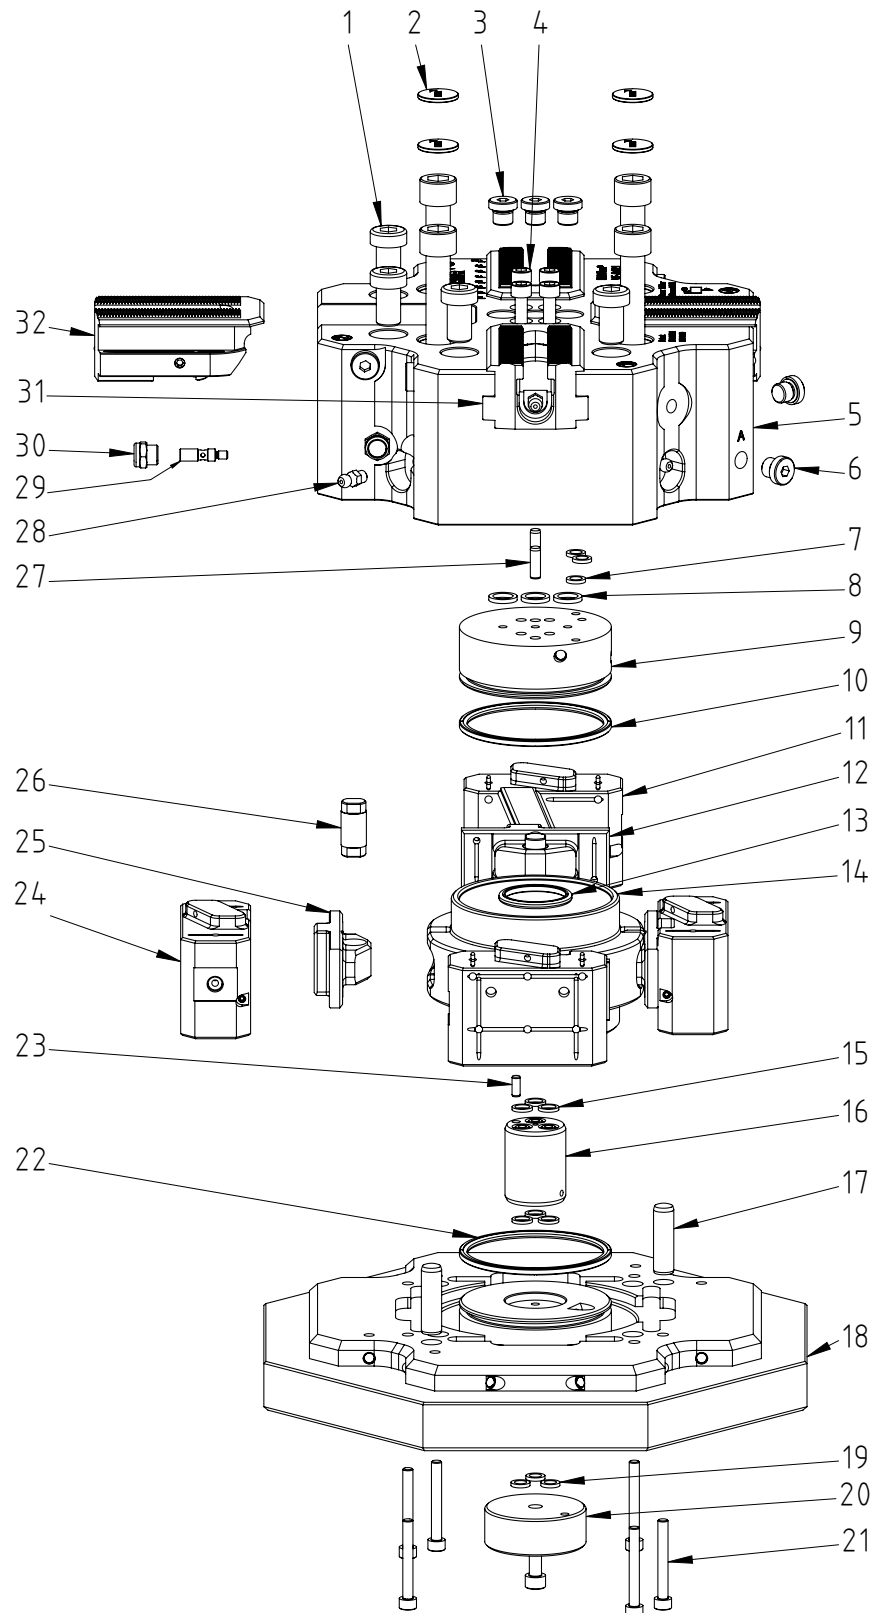

Fig. 8-1: Spare parts VF-A 021
- Step 1** Look for the required spare part in Fig. 8-1 [... ▶ 47].